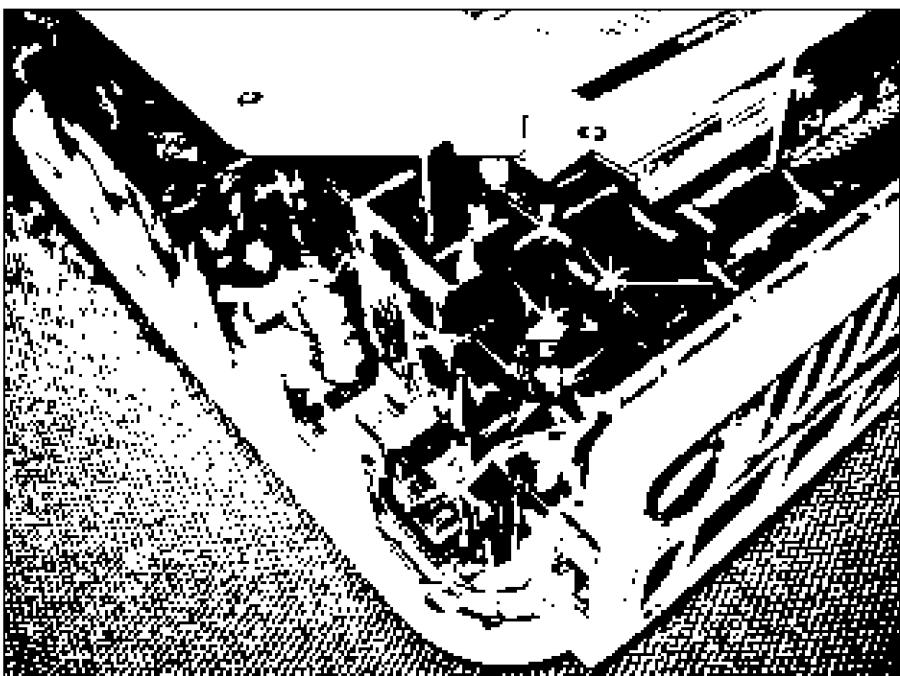

Figure 6-4:
11. Snap the AirPort antenna onto the black plastic column (as shown in Figure 6-4) next to the rear port panel.
Figure 6-4 shows the location of the tape on the column, with the wire cable still loose just below it.